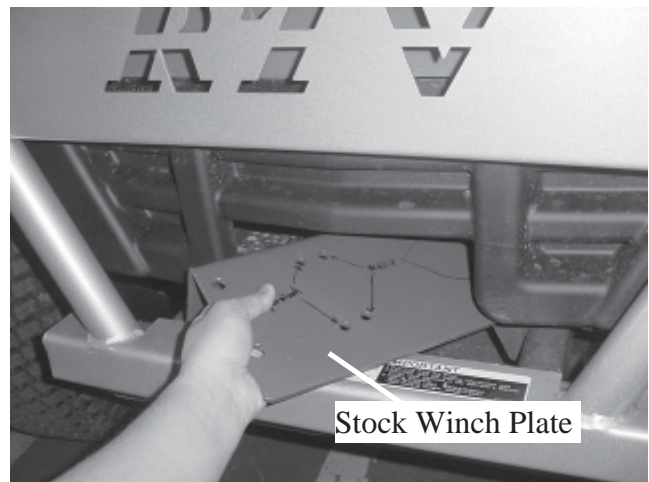

Figure 2
2. Remove the plate, Figure 2.